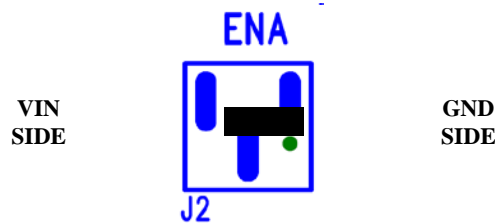

Figure 2: J2 allows control of the Enable pin.
STEP 1: Set the “ENA” jumper to the Disable Position. See Figure 2 above.